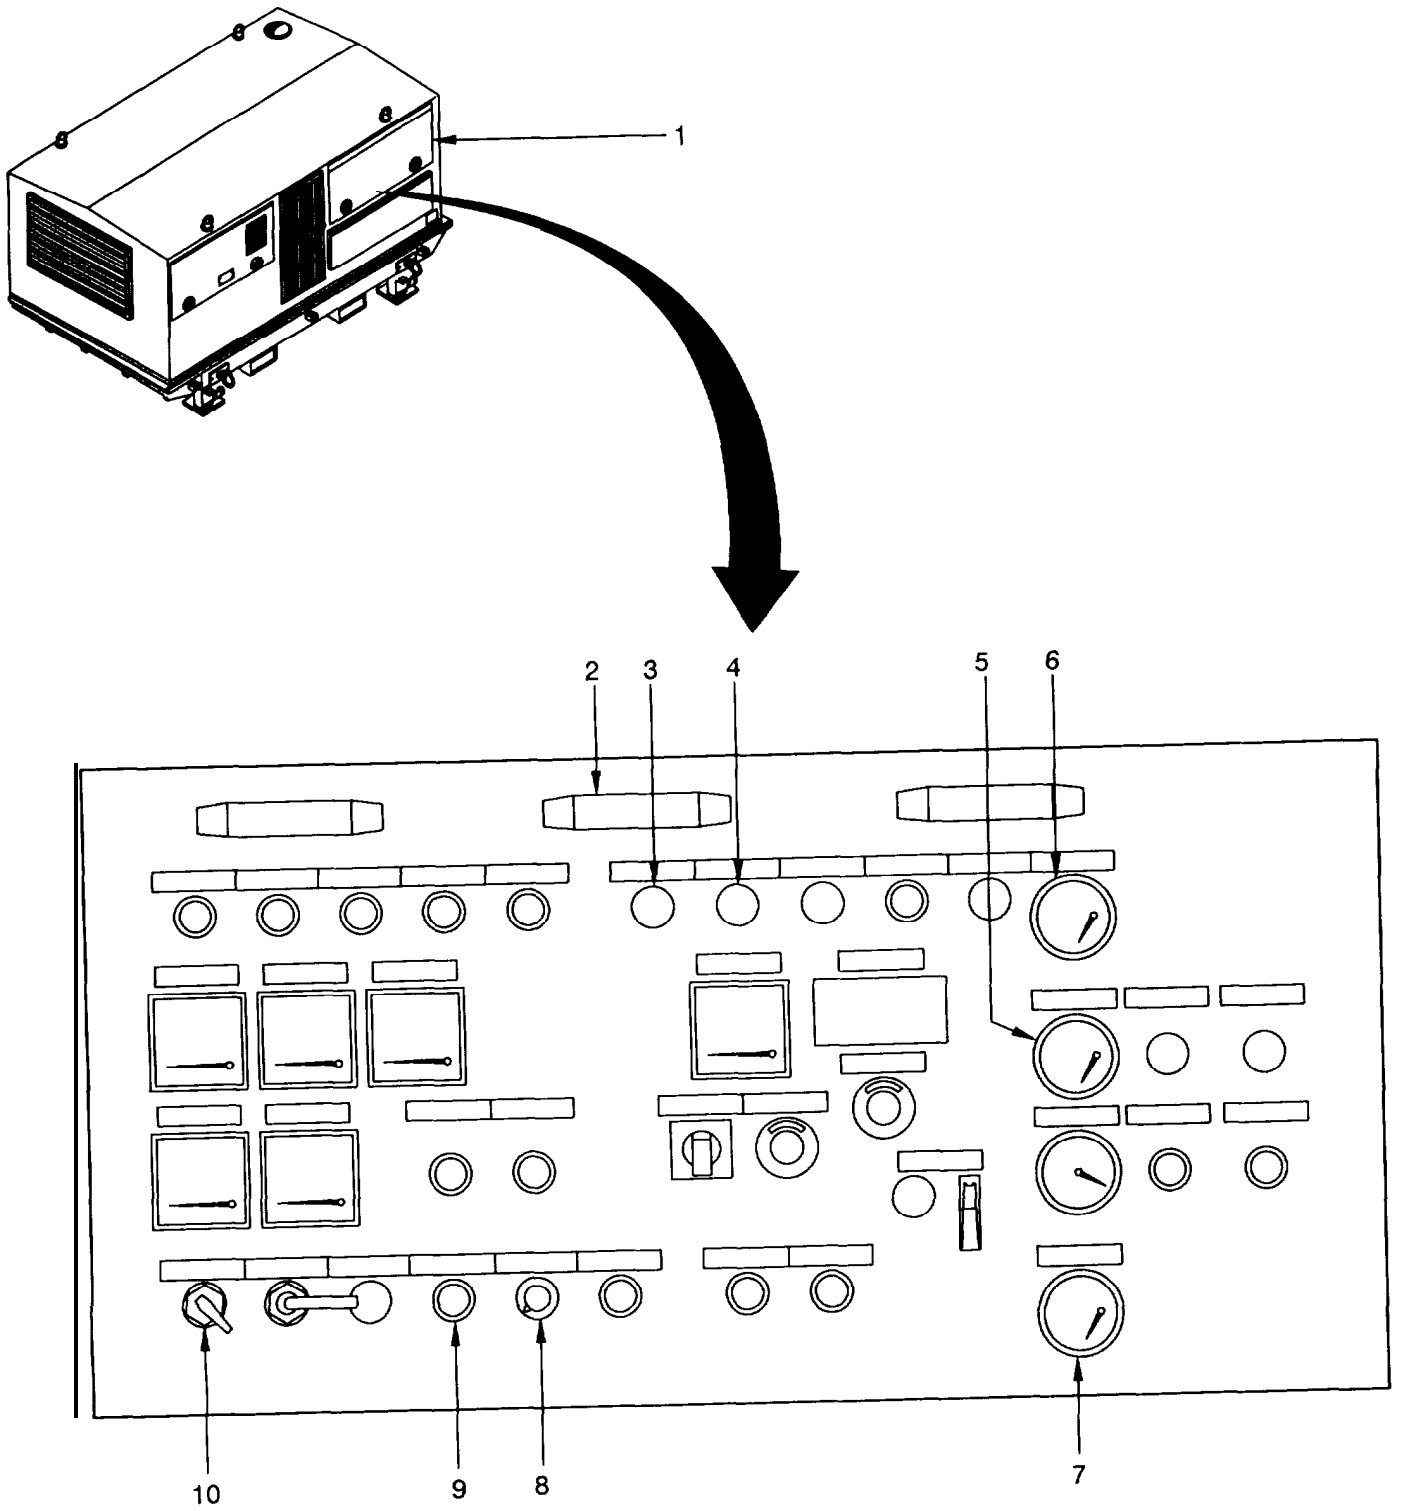

Figure 2-6 Control Cabinet Assembly Lamp Test.
Open flap (1, figure 2-6) and set MASTER SWITCH (10) to ON.
- a. Turn PANEL DIMMER switch/potentiometer (8) all the way to the right.
- e. Close flap (1, figure 2-6).